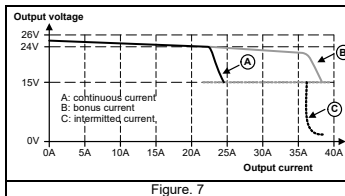

Figure 7
- The device is equipped with the HiccupPLUS overload characteristic. At heavy overloads, when output voltage falls below 15VDC, the device shuts down. The device will perform a start-up attempt after waiting time of 7s is expired. If output voltage rises above 15VDC within 1s device will remain active. If output voltage does not rise above 15VDC within 1s the device will repeat the cycle. (Fig. 7)